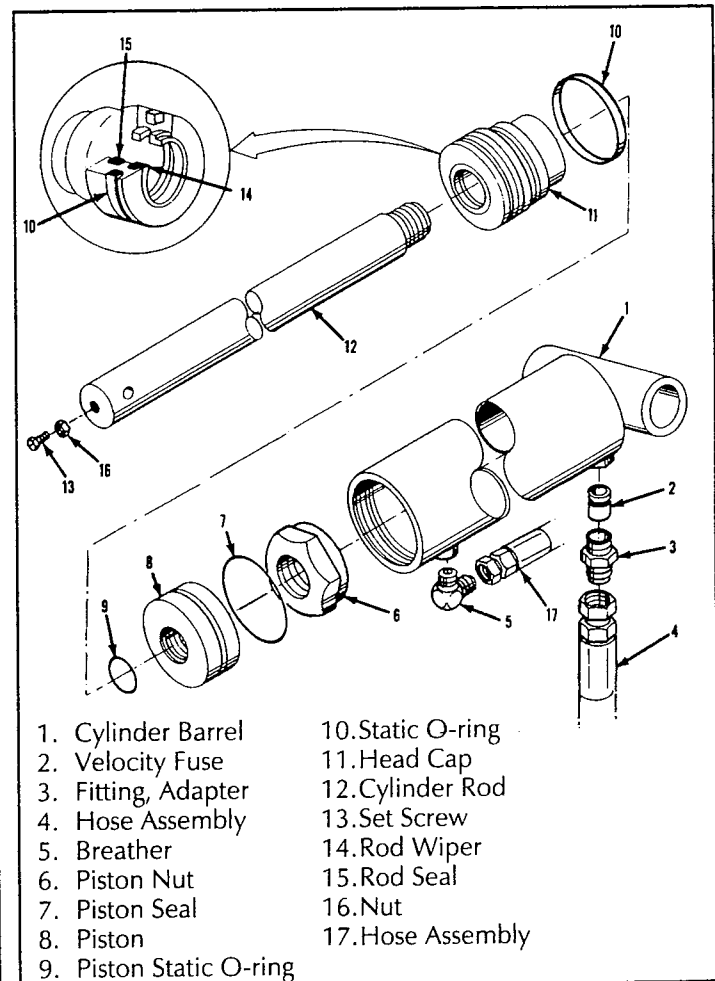

Figure 4-19: Lift Cylinder Assembly
DISASSEMBLY (Figure 4-19)
CLEANING AND INSPECTION (Figure 4-19)
REASSEMBLY (Figure 4-19)
4.14 Electric Motor (Figure 4-19)